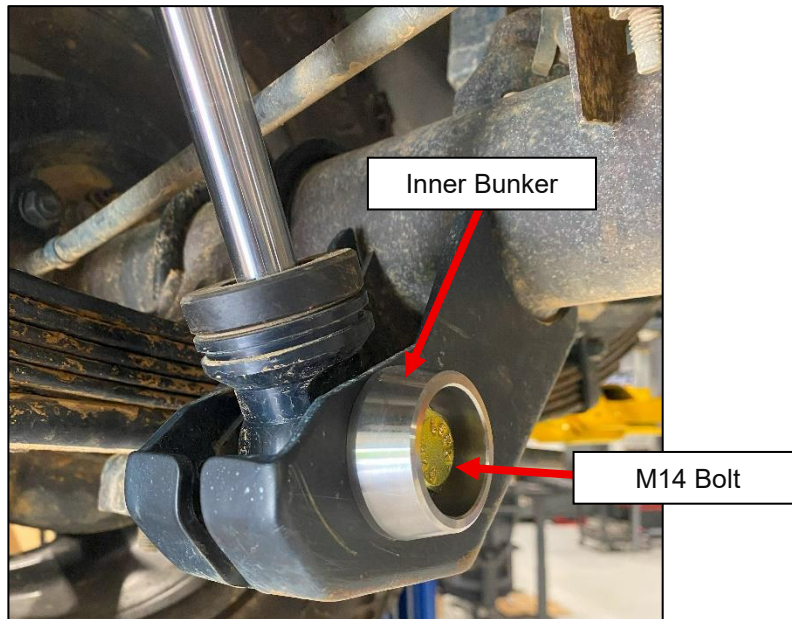

Figure 2
4. Locate (1) one Outer Bunker, (1) one Inner Bunker, (1) one M14 Bolt and (1) one M14 Nut. Install the M14 Bolt into the Inner Bunker. The Inner Bunker is the one with no cutout.
5. Insert the M14 Bolt through the Shock Skid and Lower Shock Mount. *Figure 2.*